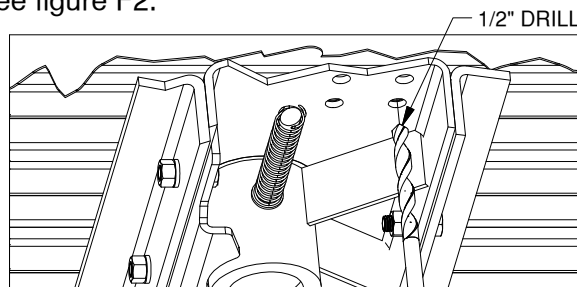

Figure F2: Cut away view of bed and center section.
1. **Drill the holes.** From under the bed use a drill and a 1/2" drill bit to drill through the bed using the four holes that match up with a low rib in the truck as a guide. Remove any burrs created during the drilling process, see figure F2.